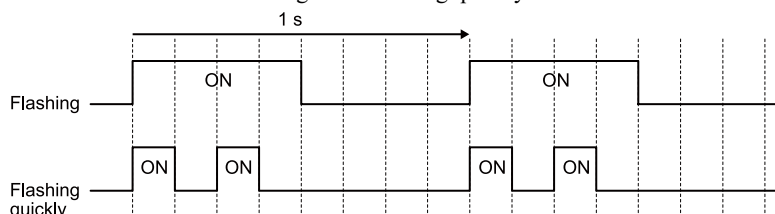

Figure 10.1 LED Flashing Statuses
*1 Refer to Figure 10.1 for the difference between “flashing” and “flashing quickly”.